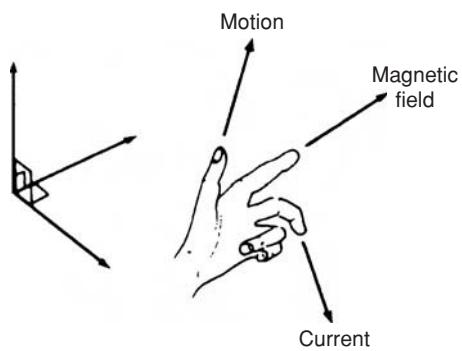

Figure 8.14
*Let the thumb, first finger and second finger of the left hand be extended such that they are all at right-angles to each other; (as shown in Fig. 8.14) If the first finger points in the direction of the magnetic field, the second finger points in the direction of the current, then the thumb will point in the direction of the motion of the conductor.*